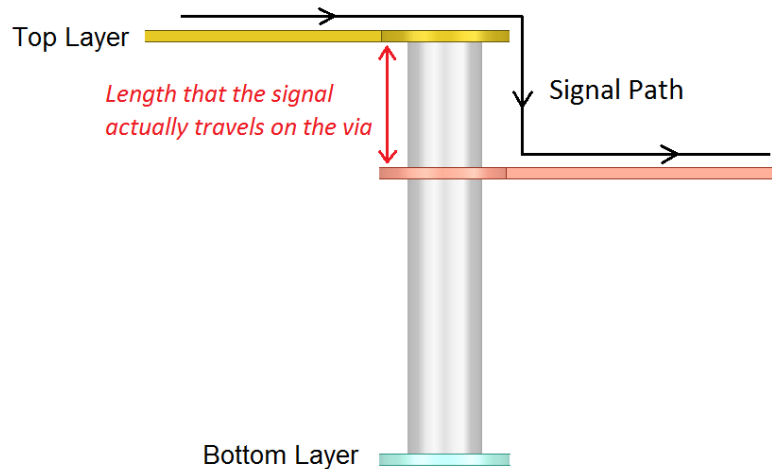

Figure 1. Length that the signal actually travels on the Via
5. At a speed of 3200 MT/s, signal vias can be a significant source of crosstalk. If not properly designed, it can introduce crosstalk larger than that from the trace. To minimize via crosstalk, make sure the total number of vias to be two or less on each point-to-point single-ended/differential trace. Place at least one ground stitching via within 40 mils of signal via when switching reference planes to provide continuous return path and reduce crosstalk. If it is not possible to place enough ground stitching vias due to space limitation, try to make the length that the signal actually travels on the via as short as possible, as illustrated in *Figure 1*.